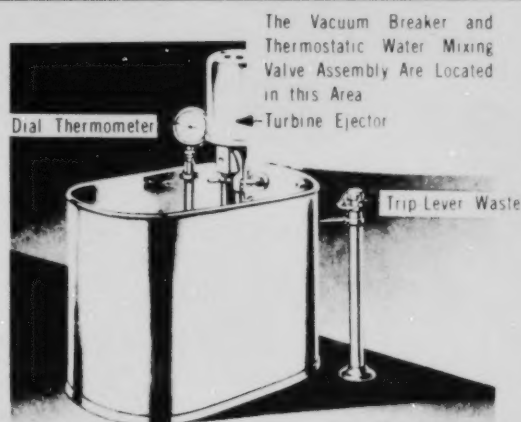

Figure 31-3. Combination Arm and Leg Bath
- c) The addition of special fixtures such as a sitz bath (Figure 31-1), an autopsy table (Figure 31-2), and a combination arm and leg bath (Figure 31-3). In general, the water-supply and drainage piping for hospitals is similar to corresponding components for other buildings. After the installation of water lines, the system must be disinfected.
71. The typical combination arm and leg bath comprises an oval-shaped, corrosion-resistant stainless-steel tank, electric turbine ejector, dial thermometer, thermostatic water-mixing valve assembly, and a vacuum breaker. The turbine ejector is provided with an aerator and an elevator for lowering and raising. (See Figure 31-3.)